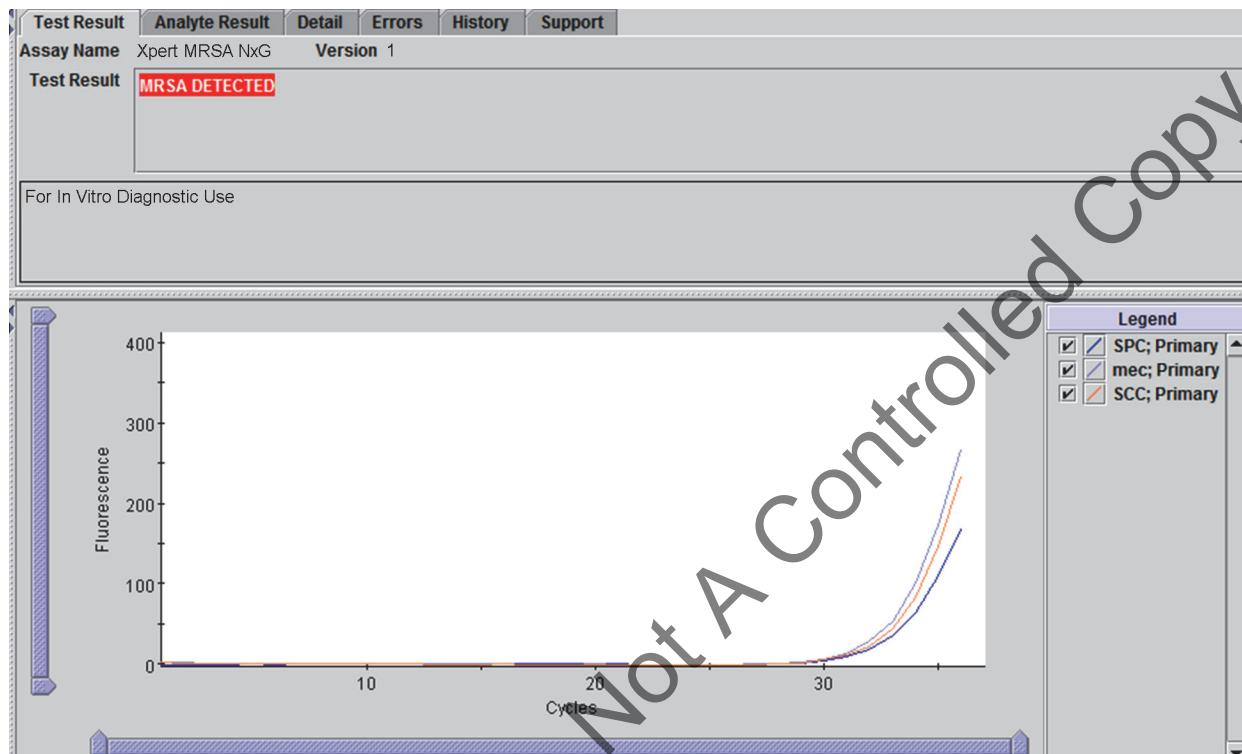

Figure 2. An Example of a MRSA DETECTED Result
The results are interpreted by the GeneXpert System from measured fluorescent signals and embedded calculation algorithms and will be shown in the View Results window. Possible results are shown in Table 2. Examples of Xpert MRSA NxG test results are provided in Figure 2, Figure 3, Figure 4, Figure 5, and Figure 6.
MRSA DETECTED See Figure 2.	MRSA DNA is detected. <ul style="list-style-type: none"> <li>• MRSA DETECTED: MRSA targets, mec (mecA/mecC) and SCCmec, have a cycle threshold (Ct) within the valid range.</li> <li>• SPC – NA (not applicable); the SPC signal is not part of the results interpretation algorithm if MRSA is detected since SPC signal may be suppressed due to competition with mec (mecA/mecC) and SCCmec.</li> <li>• Probe Check – PASS; all probe check results pass.</li> </ul>
**Note** The screens shown in this section (Figure 2, Figure 3, Figure 4, Figure 5, and Figure 6) are from a GeneXpert Dx instrument running GeneXpert Dx software.